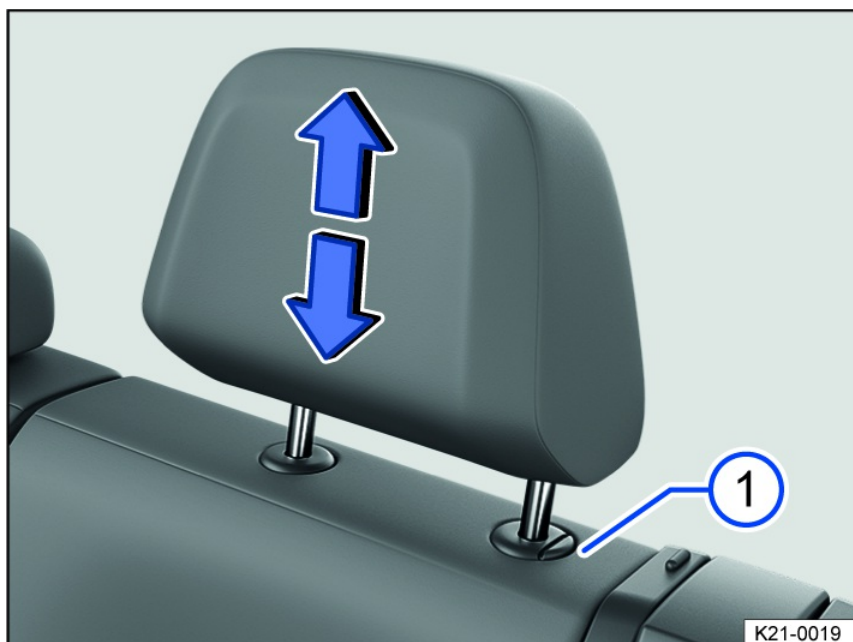

Fig. 72 Adjusting the middle rear head restraint (general example).
1. If necessary, slide the head restraint upward or downward in the direction of the arrow and when pressing the fig. 72 button.